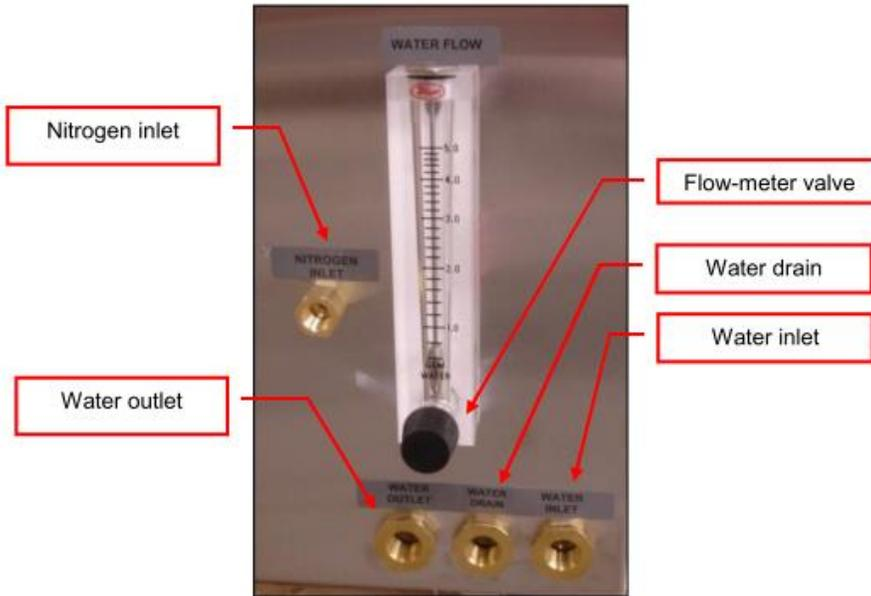

Figure 6. LCC/LCD Connections Panel.
Utility connections vary slightly on different LCC/LCD models. Table 3 lists the connection purposes and parameters. Refer to Figure 6 for visual reference.
1. Connect nitrogen supply line to **NITROGEN INLET** at the connections panel (Figure 6).
2. Install water connection for cooling coils to **WATER INLET** (Figure 6). Verify the valve on the flowmeter is turned OFF, that is, fully clockwise.
5. Complete the drain connection on oven side by connecting **WATER OUTLET** to the closed loop system (Figure 6).